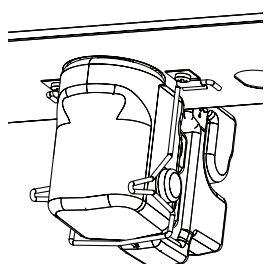

Fig. 23b
5. Carefully relocate the condensate trap in the boiler ensuring all seals are located properly and re-engage the securing clip (Fig. 23b).